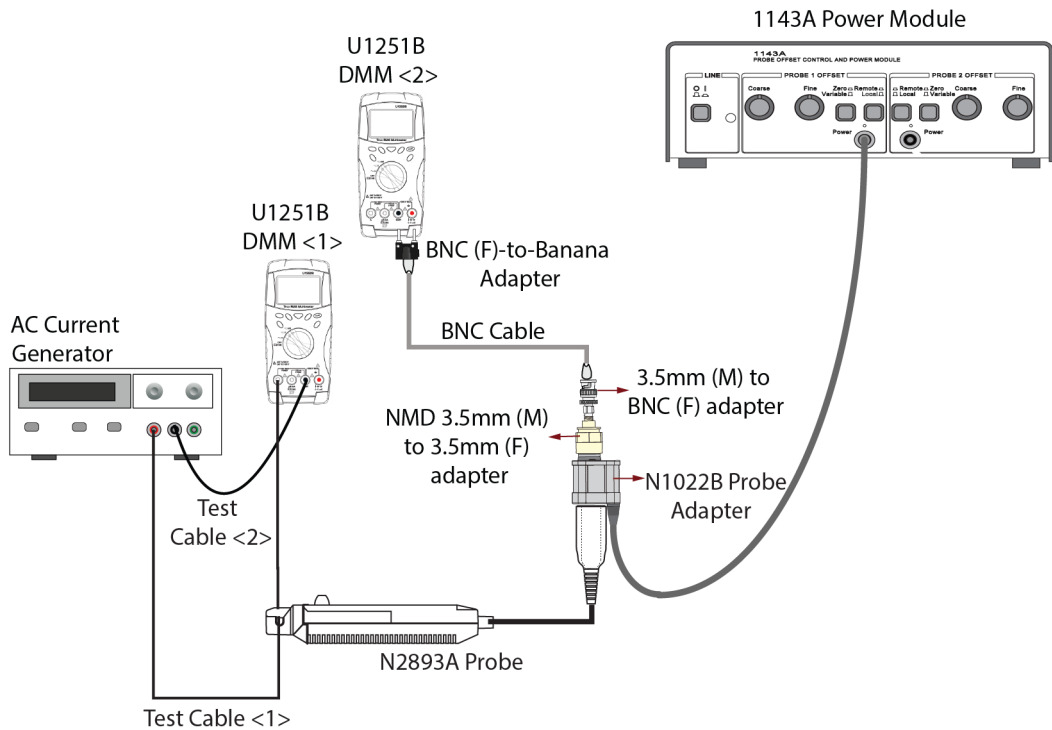

Figure 9 Complete Test Setup
- 6 As displayed in Figure 9 on page 20, connect a BNC cable to the:
- a N1022B adapter's output using the NMD 3.5mm (M) to 3.5mm (F) adapter and 3.5mm (M) to BNC (F) adapter.
- b DMM <2> using a BNC (F)-to-banana adapter.